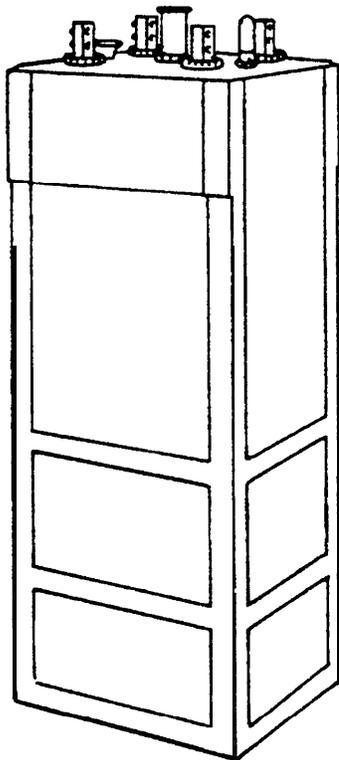
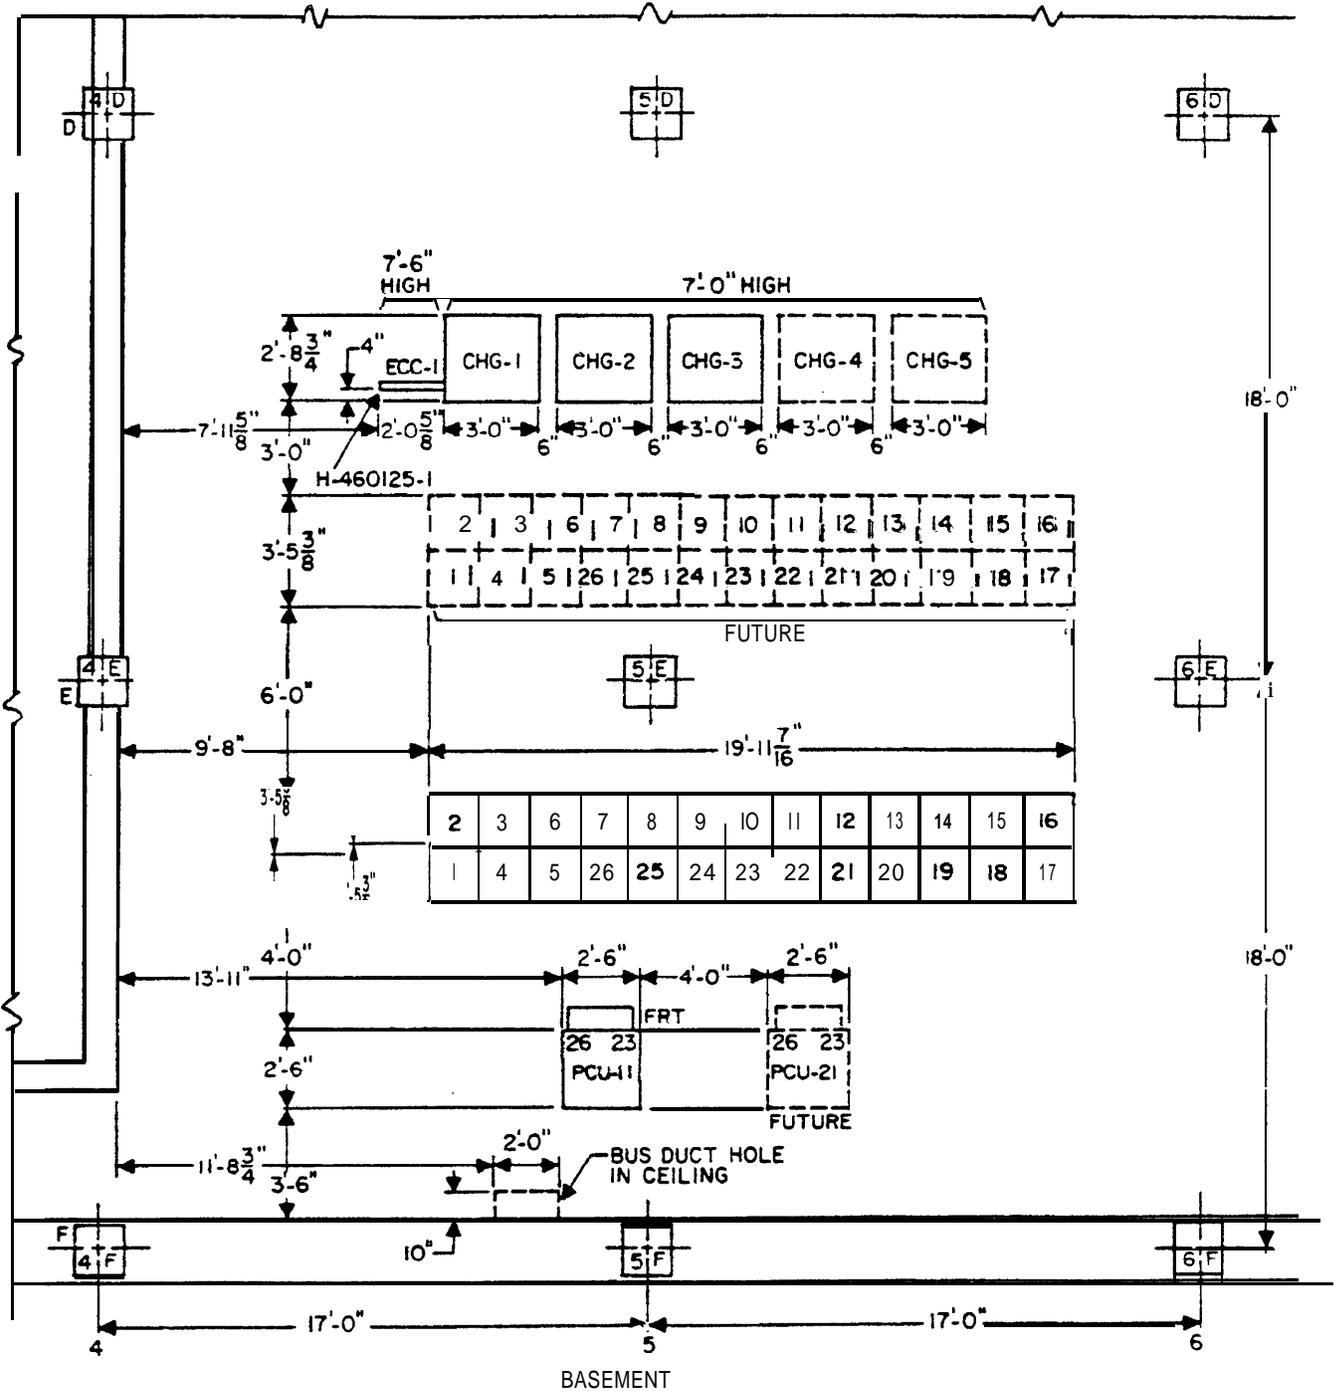

Figure 1. Floor-Mounted Cell.
Figure 2. Typical Floor Plan Job Drawing.
3.03 Cells (Figure 1) can be positioned as shown on the typical floor plan in Figure 2. The dimensions for the cells are given in Table 1 and are based on the upper portion of the cell (which is somewhat larger than the bottom of the cell). First, locate the cell at one end of a row on the floor; then, locate adjacent cells in line with the end cell and in accordance with the intercell connector spacing. Mark the allotted spacing on the floor with chalk, and show the polarity marks for each spacing so that they will be visible after the battery is set in place (Figure 3).